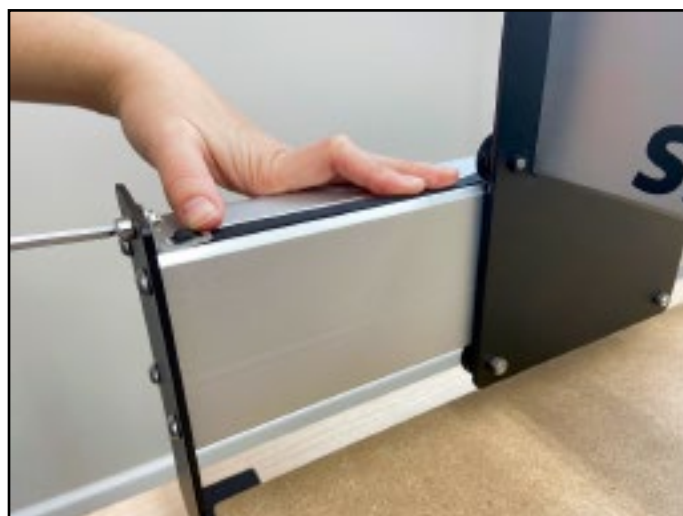

Figure 5-12
- Set the belt clip on top of the Y1-rail next to the front endplate. The belt should lay flat, teeth down, and extend along the Y1-rail towards the Y1-carriage. Ensure the teeth of the bottom 2 inches of belt interlock with the top. See **Figure 5-12**.
- Use the 4mm hex key and one (1) M5x10mm socket head cap screw to attach the belt clip to the front endplate. Insert the screw from the **FRONT** and tighten. See **Figure 5-12**.